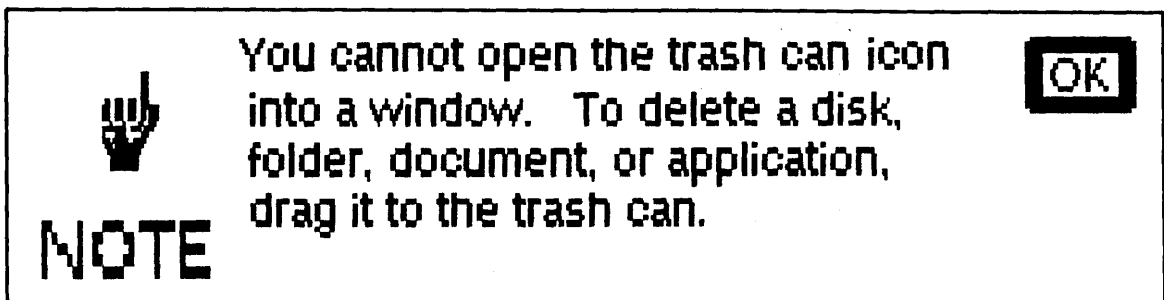

Fig. 1-4. A dialog appears when you double-click on the Trash icon.
- ☐ Double-click on the trash can icon (incidentally, you have now received your first warning dialog) (Fig. 1-4).